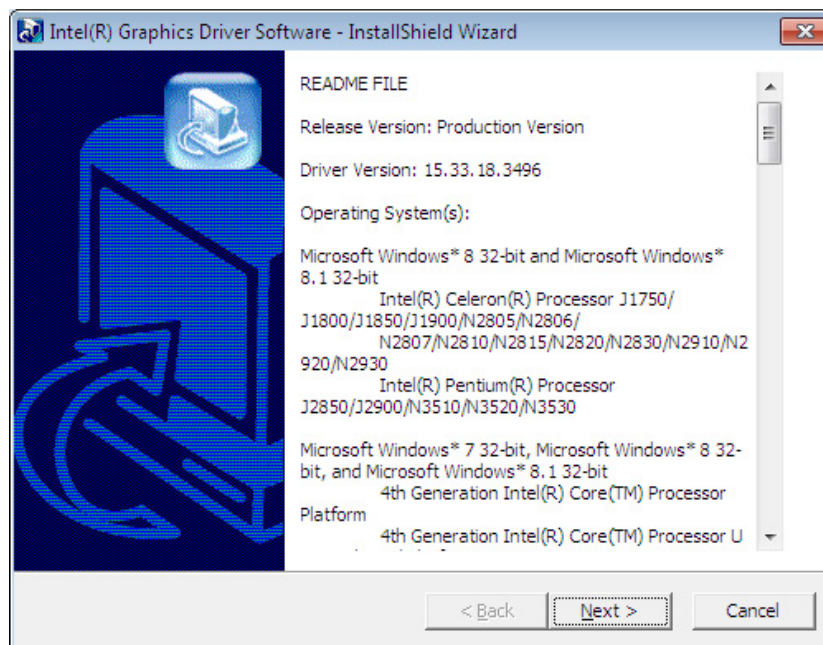

Figure 6-6: Graphics Driver InstallShield Wizard
Step 4: The InstallShield Wizard for the graphics driver appears (**Figure 6-6**). Click **Next** to start.